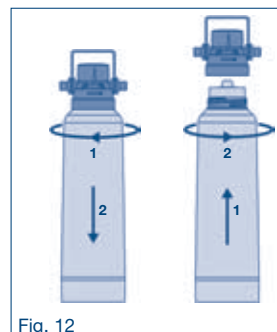

Fig. 12
2. Unscrew the filter cartridge out of the filter head in a clockwise motion (see Fig. 12).
3. Install new filter cartridge (see Fig. 12).